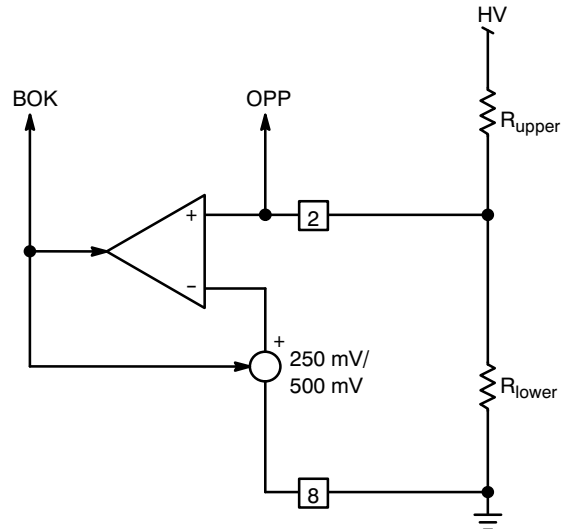

Figure 29. A Way to Implement a BOK Detector on Pin 2
Also called “Bulk OK” signal ( $B_{OK}$ ), the brown-out (BO) protection prevents the power supply from being adversely destroyed in case the mains drops to a very low value. When this occurs, the controller no longer pulses and waits until the bulk voltage goes back to its normal level. A certain amount of hysteresis needs to be provided since the bulk capacitor is affected by some ripple, especially at low input levels. For that reason, when the BO comparator toggles, the internal reference voltage changes from 500 mV to 250 mV. This effect is not latched: that is to say, when the bulk capacitor is below the target, the controller does not deliver pulses. As soon as the input voltage grows-up and reaches the level imposed by the resistive divider, pulses are passed to the internal driver and activate the MOSFET. Figure 29 offers a way to connect the elements around Pin 2 to create a brown-out detection. Please note that this technique does not use a current source for the hysteresis but rather a capacitor. It offers a way to freely select the resistive bridge impedance.